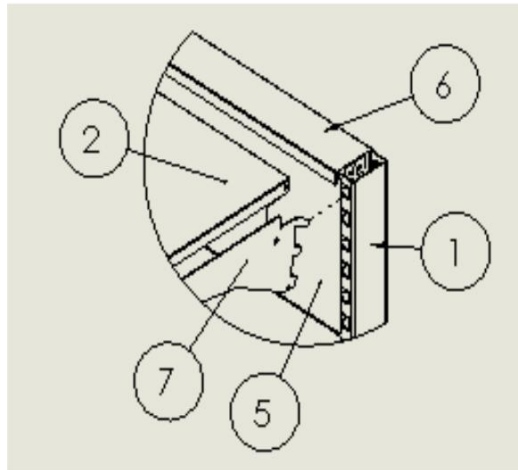

Figure 6
c) the multi angled bracket is placed so that it sits flush with the plain panel in the innermost part of the wall post slot. (see Figs 6 & 7)
10 Using a small step fit the Flat Shelf (Item 2) on to the multi angled bracket. The multi angled bracket will fit inside the outer edges of the flat shelf with the back of the flat shelf fitting into the back of the raised section of the multi angled bracket. This should result in a firm surface and the flat shelf being horizontal. If this is not the case check that the brackets have been fitted correctly (see Figs 6 & 7)